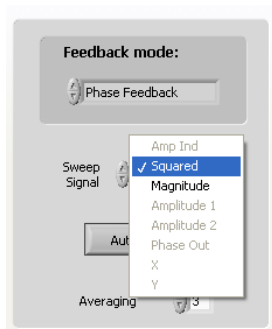

Figure 41 Changing Sweep Signal to "Squared"
1. On the center panel, click **Sweep Signal** and select **Squared** in the pop-up menu (Figure 41). "Squared" is a mathematical formula which determines the phase signal.